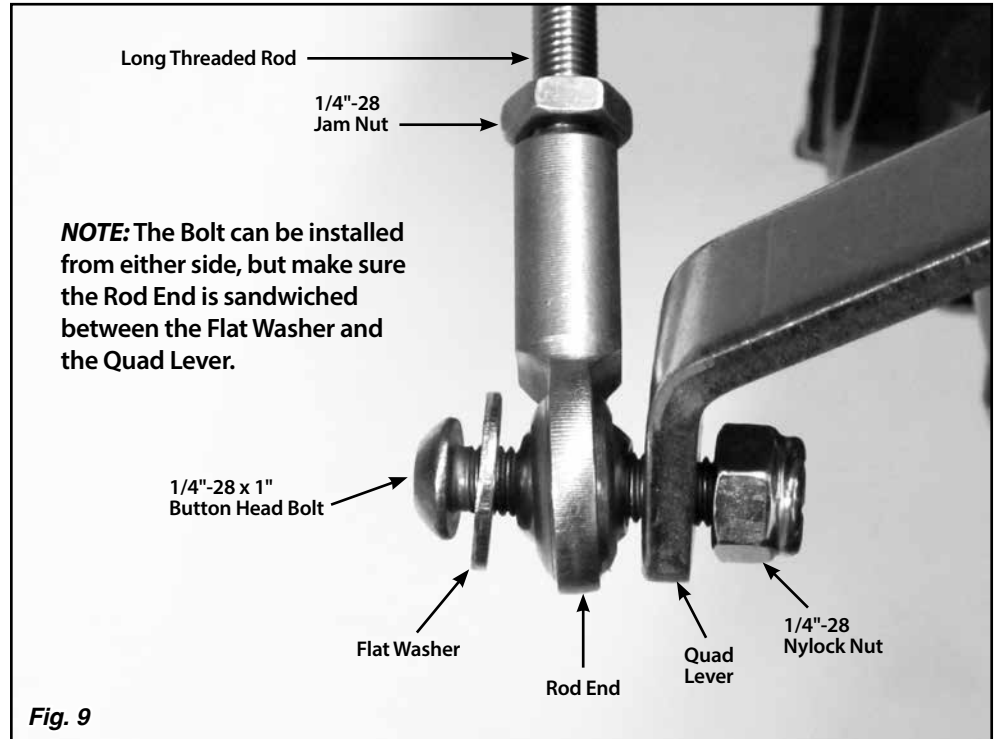

Fig. 9
Step 12: Verify that the 1/4"-28 jam nuts are still on the long threaded rod, and install the long threaded rod into the inner rod end on the linkage arm. Install a rod end onto the opposite end of the long threaded rod, and connect it to the outside of the quad arm using a 1/4"-28 x 1" button head bolt, flat washer, and nylock nut. Make sure the rod end is sandwiched between the flat washer and the quad arm. **Fig. 9**